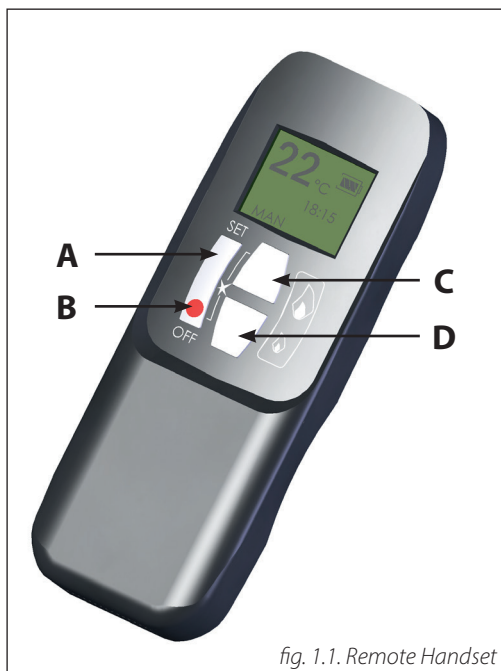
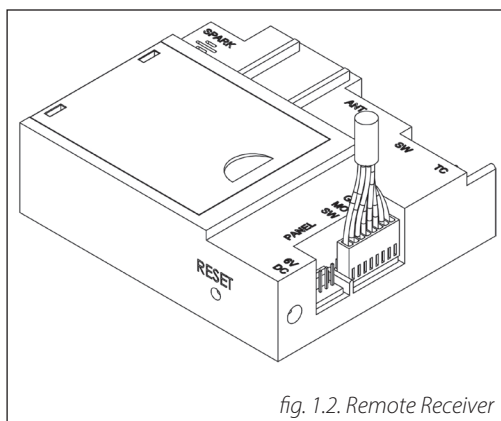
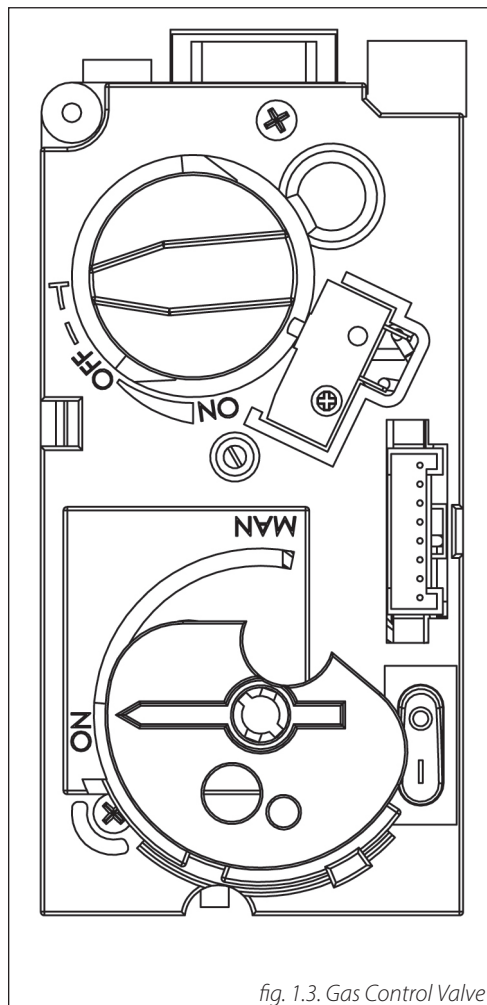

fig. 1.1. Remote Handset
fig. 1.2. Remote Receiver
fig. 1.3. Gas Control Valve
This Wanders Gas Appliance has been constructed with an advanced remote control system. This consists of three main parts; Handset (fig. 1.1), Receiver (fig. 1.2) and Gas Valve with Manual Override (fig. 1.3). The Gas control valve and the Receiver are behind the access door. This is also where the product Data Label is located.
Within the next twenty seconds press the down button (Button D fig 1.1) on the remote handset until you hear an additional long signal confirming the code is set.
To be able to use the Remote control Handset (fig. 1.1), the rocker switch on the Gas Valve, must be turned "ON" (the "1" position) and the manual Dial set to the "On" position.
Press the OFF button (Button B fig. 1.1) on the Handset. This will extinguish all Burners including Pilot.
Note: - Repeated presses of the small flame (Button D fig. 1.1) will turn the main burner OFF, but will leave the Pilot alight.
To increase the flame height; press the large flame button (Button C fig. 1.1).
To decrease the flame height; press the small flame button (Button D fig. 1.1).
To switch the "Effect" burner OFF, simultaneously press the OFF and Large Flame buttons (buttons B & C fig. 1.1).
To switch the "Effect" burner ON, simultaneously press the SET and Large Flame buttons (buttons A & C fig. 1.1).
Simultaneously press OFF and Small Flame buttons (buttons B & D fig. 1.1) until display changes from Fahrenheit/12 hour clock to Celsius/24 hour clock and vice versa.
- Simultaneously pressing the Large Flame Button and Small Flame Button (buttons C & D fig. 1.1)
Press the Large Flame button (button C fig. 1.1) to set the hour.
Press the Small Flame button (button D fig. 1.1) to set the minutes.
Press OFF (button B fig. 1.1) to return to standard operating mode or simply wait and it will return to standard mode after approximately 15 seconds.